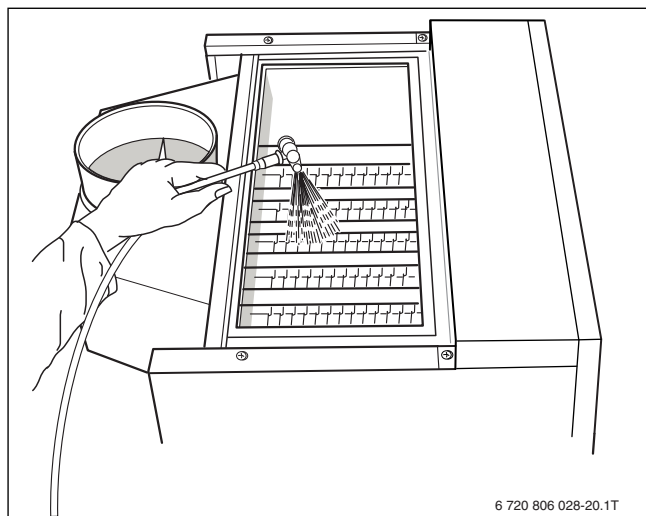

Fig. 34 Wet cleaning the boiler
- ▶ Spray cleaning agent evenly from the top into the hot gas flues (→ Fig. 34).